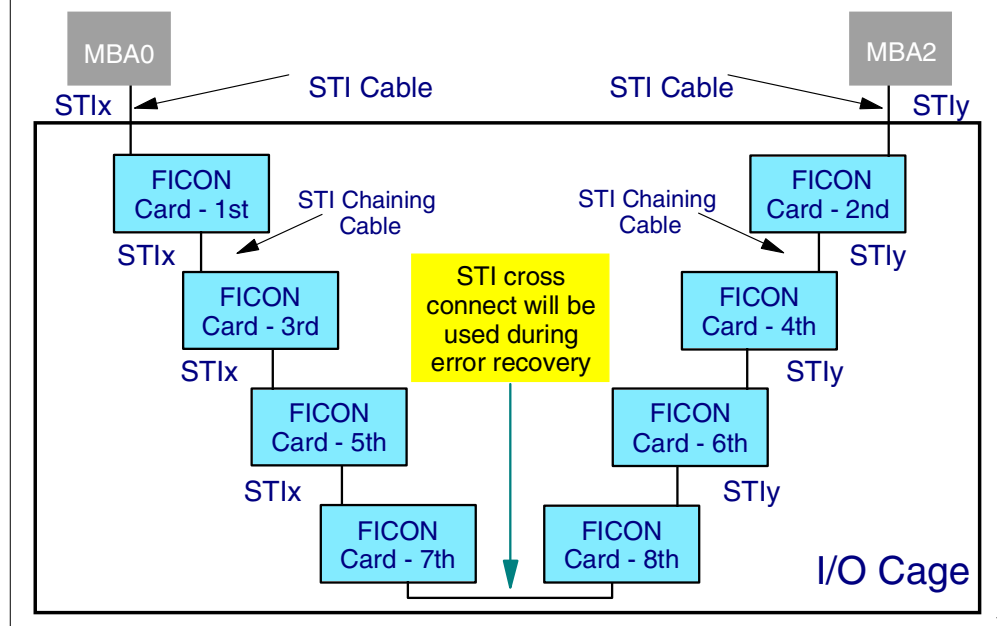

Figure 22. FICON channel internal connections support
- All this can be seen in Figure 22.